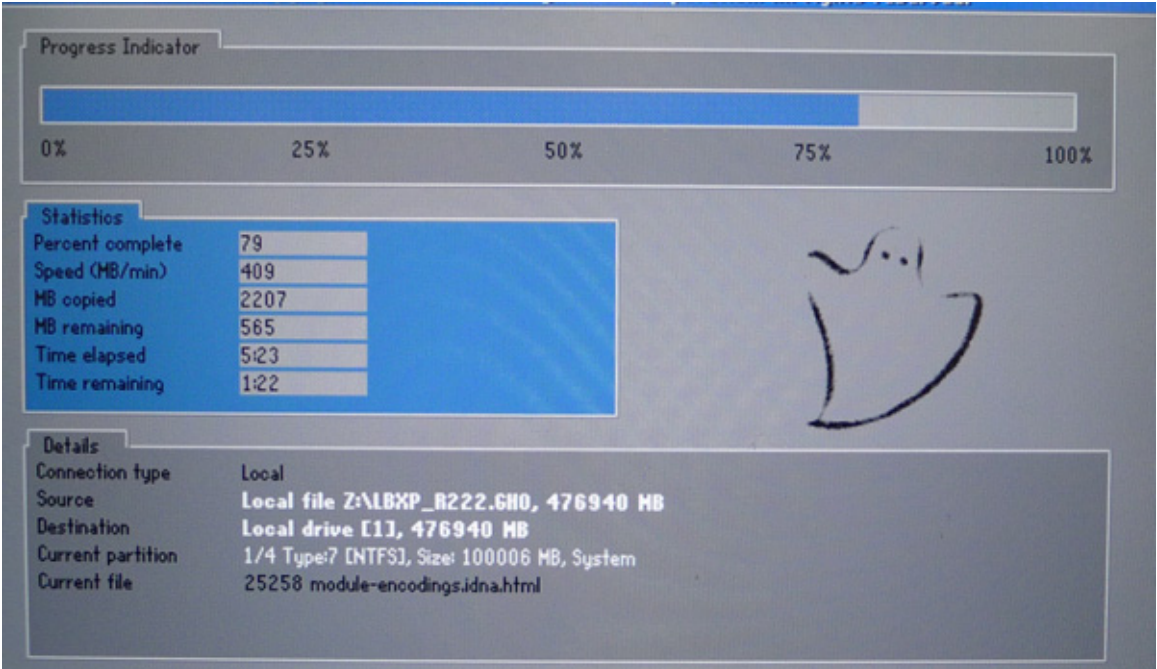

Figure 3-34 Upgrading progress status
11.)The system DVD is being loaded as shown in Figure 3-34 on page 3-36 . The Progress Indicator displays the loading progress status.
- 12.) When the system DVD loading as shown in Figure 3-34 on page 3-36 is completed, the system upgrade process is completed successfully. Follow the instruction as shown in Figure 3-35 on page 3-37